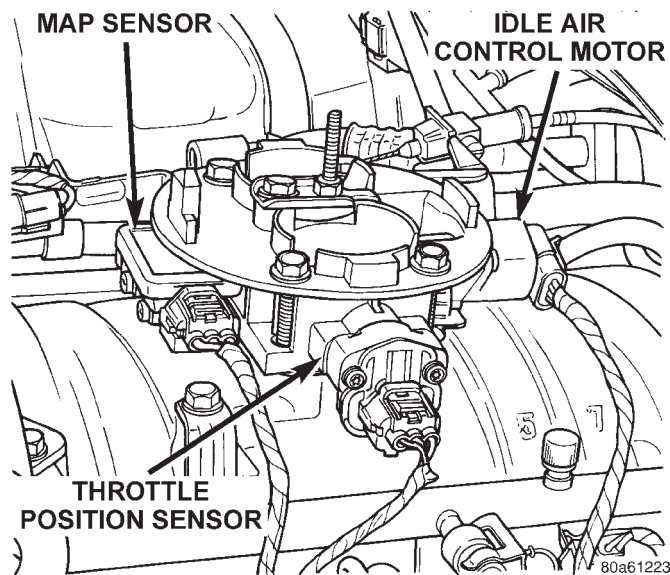

Fig. 28 Sensor and IAC Motor Location—5.2L/5.9L Engines
(16) Verify that MAP sensor electrical connector is firmly connected to MAP sensor (Fig. 28). Also verify
(17) Verify that fuel injector wire harness connectors are firmly connected to injectors in the correct order. Each harness connector is numerically tagged with the injector number (INJ 1, INJ 2 etc.) of its corresponding fuel injector and cylinder number.
(18) Verify harness connectors are firmly connected to idle air control (IAC) motor, throttle position sensor (TPS) and manifold absolute pressure (MAP) sensor (Fig. 28).